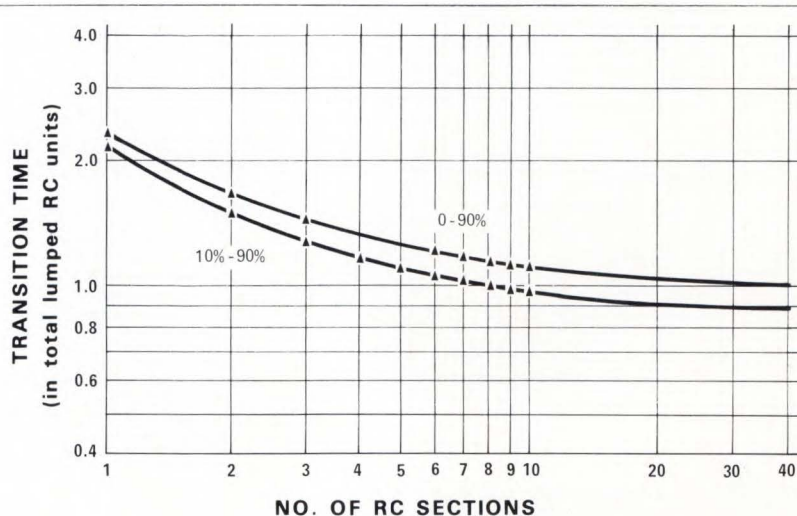

Fig. 3—Empirical results clearly depict that response time is not the normally anticipated 2.2 RC, but approaches 1.0 RC as predicted by the author.
**Experimental Results.** Because of the relative difficulty of constructing and measuring a purely distributed RC line, we tried to simulate such a line with an increasing number of discrete RC sections. The plot of the time it took these circuits to rise from 0 and 10% to the 90% point of their final value is shown in Fig. 3. Here the transition time in total lumped RC units is plotted as a function of the number of discrete RC sections from which the line was constructed. Note the conversion of the graph to the 1 RC line.  $\square$